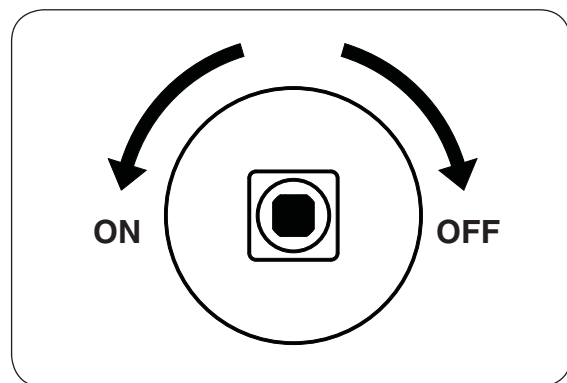

Fig. 9-2
5. **Once the match is burning and in position**, slowly turn the key valve counter-clockwise toward the **ON** position until it no longer rotates (see Fig. 9-2). Your burner should light.